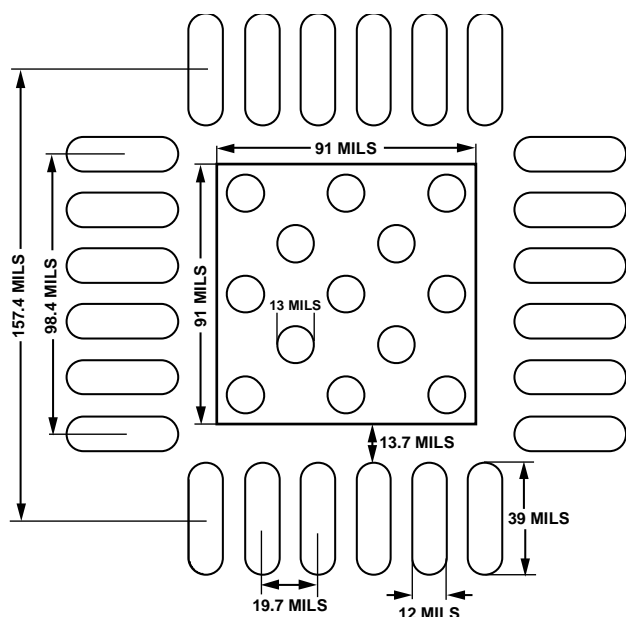

Figure 53. Recommended Land Pattern
Figure 53 shows the recommended land pattern for the ADL5567. The ADL5567 is contained in a 4 mm × 4 mm LFCSP package, which has an exposed ground pad (EP). This pad is internally connected to the ground of the chip. To minimize thermal impedance and ensure electrical performance, solder the pad to the low impedance ground plane on the PCB. To further reduce thermal impedance, it is recommended that the ground planes on all layers under the paddle be stitched together with vias.